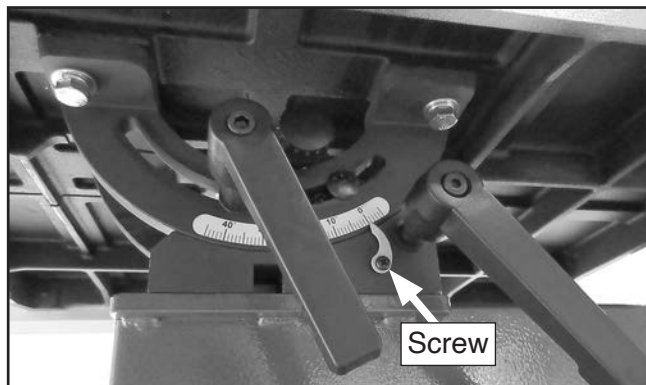

Figure 116. Location of screw that secures table tilt pointer.
4. Loosen Phillips head screw that secures table tilt pointer (see **Figure 116**), adjust pointer to "0" on scale, then retighten screw.